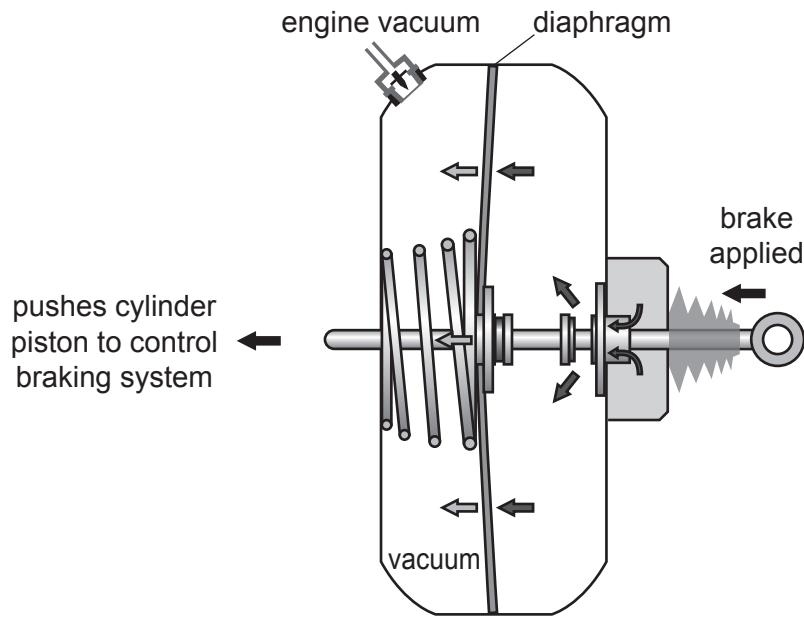

Fig. 8
- 5 Fig. 8 shows a vehicle braking servo that uses a vacuum to assist in the application of the vehicle brakes.
- (a) (i) Add a **label** to Fig. 8 to show the atmospheric intake side of the servo. [1]